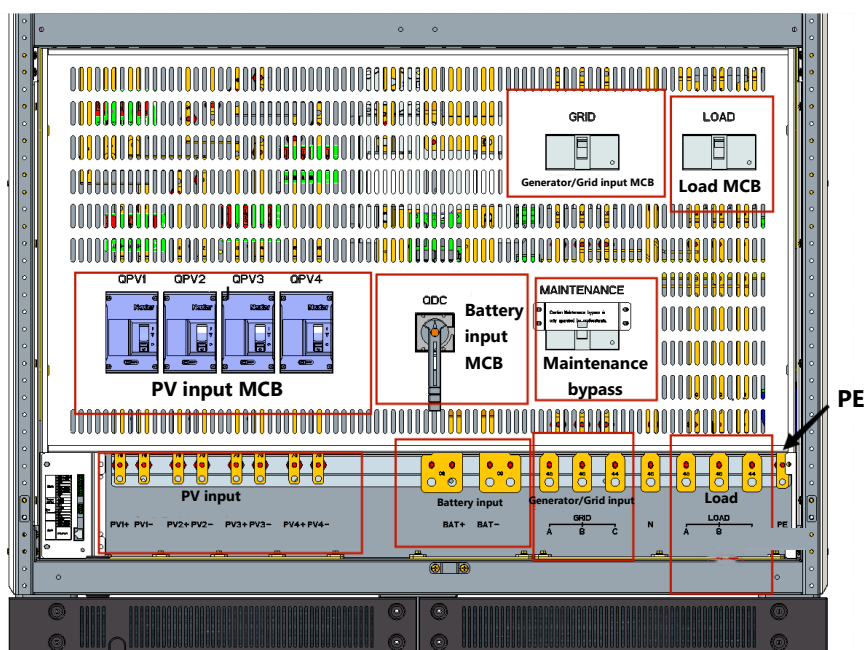

Figure 7-1 MPS input and output figure
(1) Confirm the photovoltaic input, and close the photovoltaic input switches QPV1 and QPV2 in Figure 7-1. After closing the PV input switch, if the monitor screen was black before, the monitor screen will start running at this time. (When photovoltaic power is transmitted, each photovoltaic channel must be measured to prevent short circuit).
The maintenance bypass circuit breaker (MAINTENANCE) in Figure 7-1 is normally in the off state. The maintenance bypass is to ensure that the load is not powered off when the MPS converter is overhauled or faulty (provided that the grid is powered), and the maintenance bypass is closed. After that, connect the diesel generator or grid to the load.